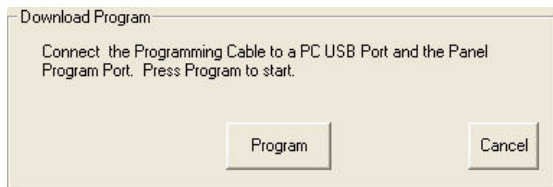

FIG. 116 Download Program window
2. The application will prompt you to connect the USB Programming Cable to a USB port on your PC and the ControlPad's Program port (FIG. 116):